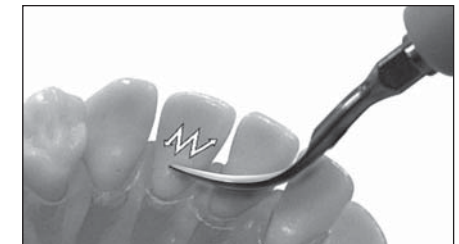

Fig. 23
- Removing tartar on the tooth plane ... Place the side of the Tip parallel with the tooth plane and finely move it up and down. (Fig. 23)